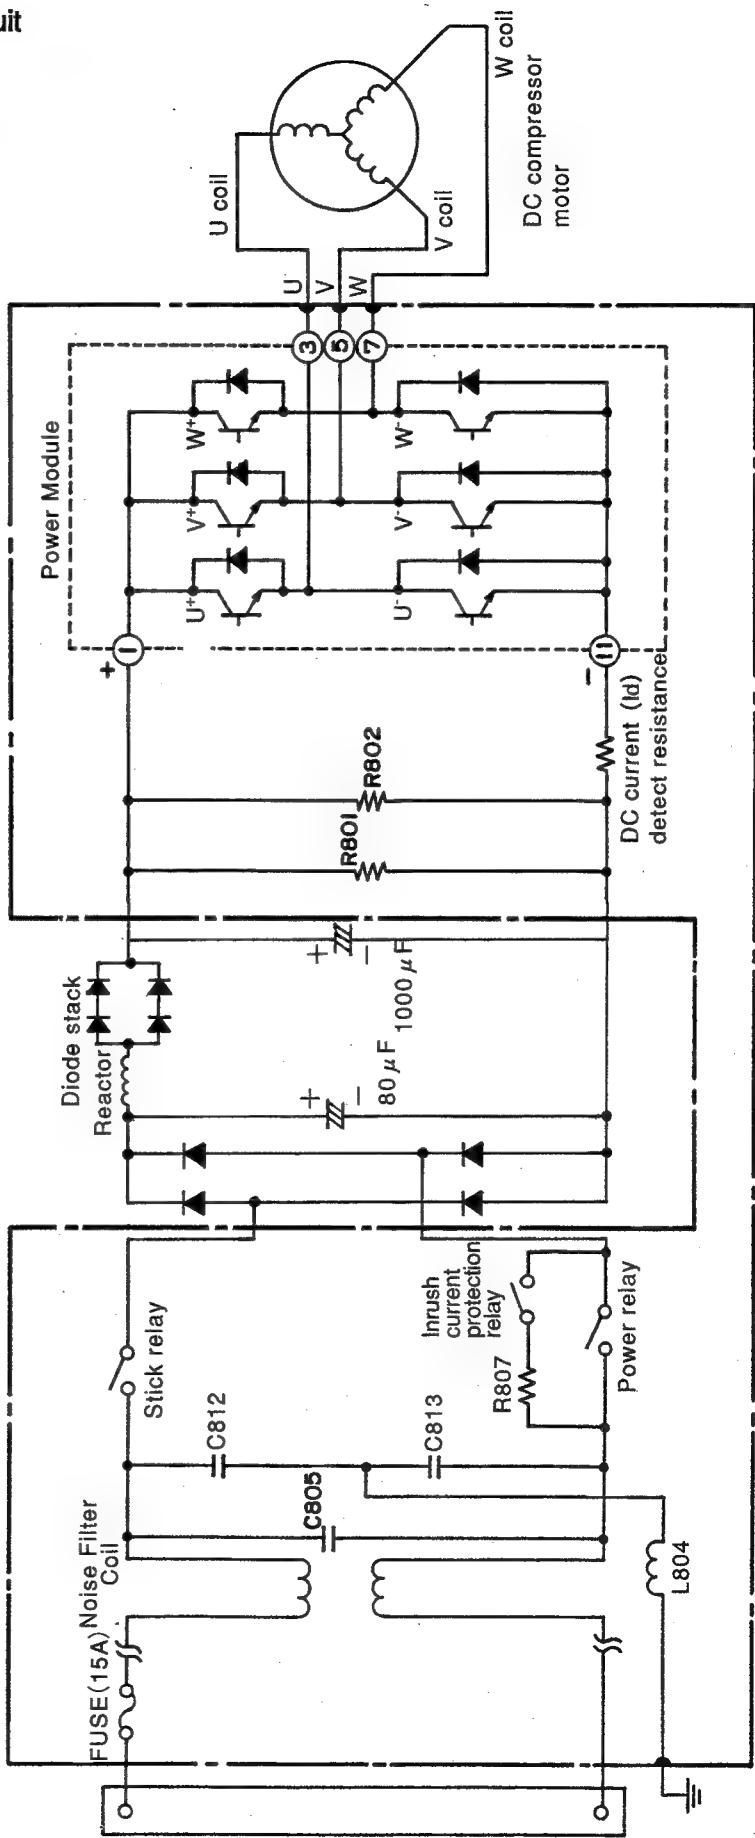
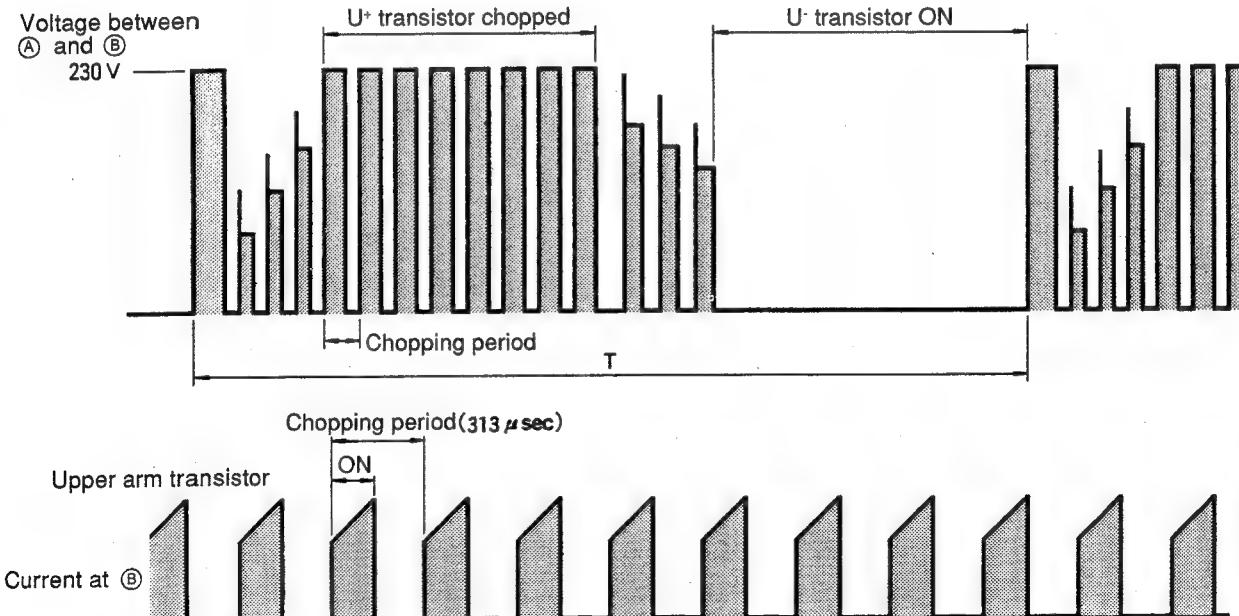

Fig. 3-1 Power module circuit (U^+ is ON, V^- is ON)
Fig. 3-3 Voltage waveform at each point
- Fig. 3-1 shows the power module and its peripheral circuits. The three transistors on the positive $+$ side are called the upper arm, and the three transistors on the negative $-$ side, the lower arm.
[* At point E: U⁺ is ON, V is ON (circuit in Fig. 3-1)
- Fig. 3-3 shows voltage waveform at each point shown in Figs. 3-1 and 3-4.
- When power is supplied U⁺ → U⁻, because of that U⁺ is chopped, current flows as shown below; ⑧
- When U⁺ transistor is ON: U⁺ transistor → U coil → V coil → V transistor → DC current detection resistor → Point ⑧ (Fig. 3-1)
- Since current flows at point B only when U+ transistor is ON, the current waveform at point B becomes intermittent waveform as shown in Fig. 3-3. Since current at point B is approximately proportional to the input current of the air conditioner, input current is controlled by using DC current (Id) detection resistor.